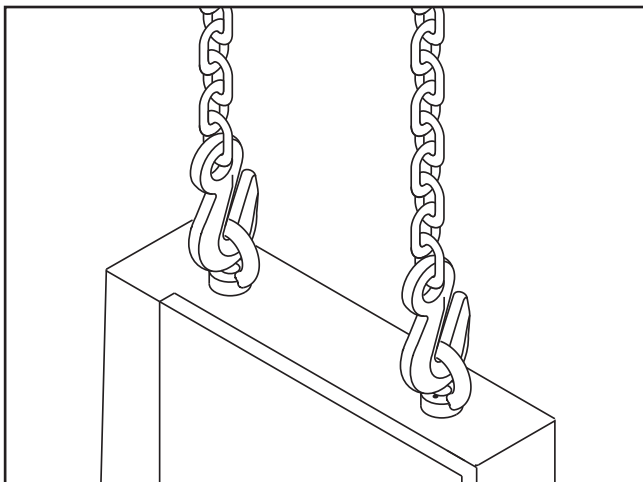

Figure 6. Lifting eye bolts installed.
3. Install the lifting eye bolts, as illustrated in **Figure 6**, making sure they are threaded all the way in.